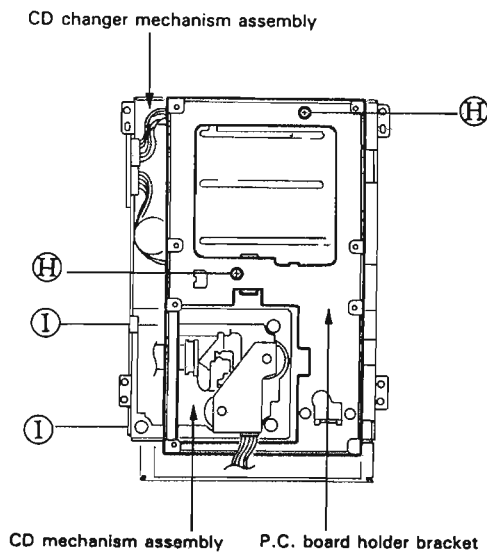

Fig. 10
1. Remove the CD changer mechanism assembly. (Refer to Item (4) of "CD changer mechanism assembly removal")
2. After turning over the CD changer mechanism assembly, from the CD changer mechanism assembly, remove the 2 screws  $\textcircled{H}$  securing the P.C. board holder bracket. (Refer to Fig.10)